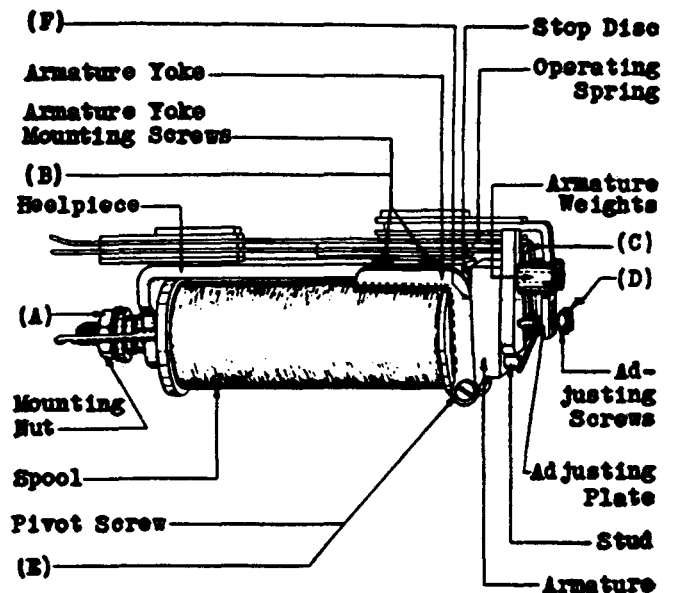

Fig. 4 - 366-type Relay
2.22 Relay Mounting: Fig. 4(A) — The spool shall be fastened securely to the heelpiece and the heelpiece shall be fastened securely to the base plate. The base plate shall be fastened securely to the mounting strip.
2.24 Tightness of Armature Yoke: Fig. 4(B) —